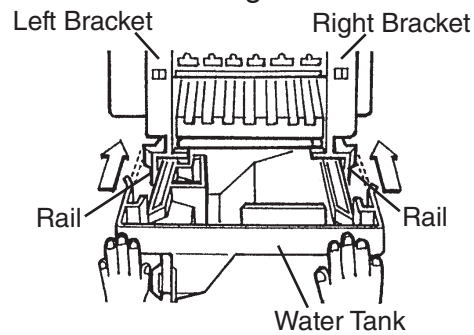

Fig. 46
- 13) Position and lock the ice chute onto the left and right brackets by pushing the ice chute down until it clicks onto both brackets. See Fig. 46.